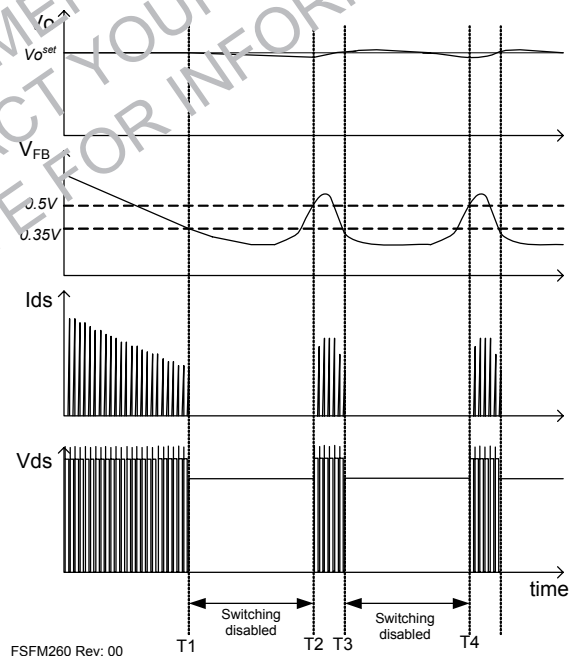

Figure 22. Waveforms of Burst Operation
5. Burst Operation: To minimize power dissipation in standby mode, the FSFM260/261/300 enters burst mode operation. As the load decreases, the feedback voltage decreases. As shown in Figure 22, the device automatically enters burst mode when the feedback voltage drops below $V_{FB,RL}$ (350mV). At this point, switching stops, and the output voltages start to drop at a rate dependent on standby current load. This causes the feedback voltage to rise. Once it passes $V_{FB,URH}$ (500mV) without a delay, the process repeats. Burst mode operation automatically enables and disables switching of the power SenseFET, thereby reducing switching loss in standby mode.